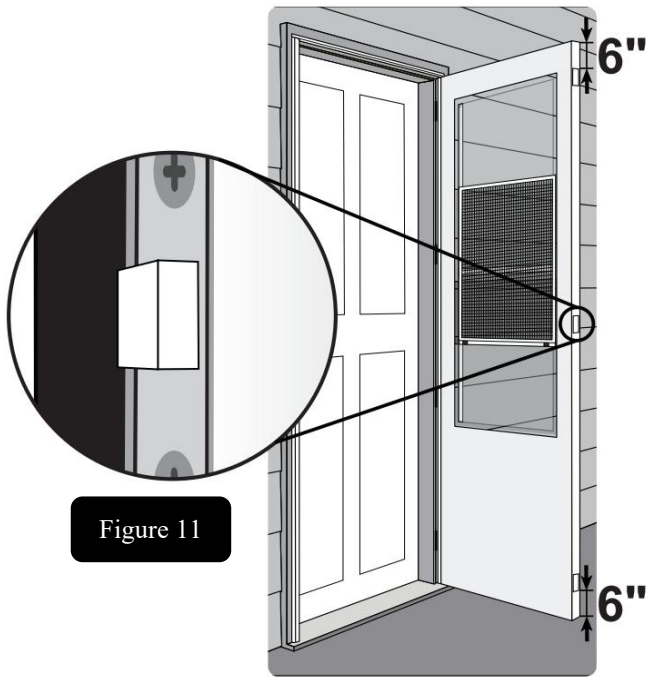

Figure 11
**Step 1:** Swing door open and wipe off residues on the edge of the door. Attach 3 square adhesive backed spacer pads to latch side door edge. Position one approximately 6" down from the top of the door, one close to center of door, and the third approximately 6" up from bottom. (Figure 11)